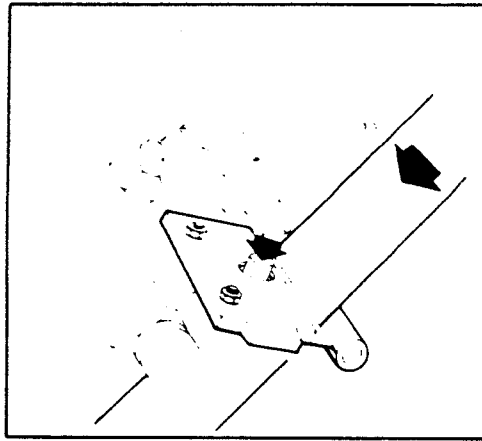

FIGURE 14A
- 3) For subsequent tape loading operations, use the red plastic threading needle and follow the loading procedures from figure 14A to complete the tape threading.
Figure 14A - Insert red plastic needle downward between one-way roller and anti-back-up spring. Press spring away from roller by utilizing silver button or lever on spring as designated by arrow.